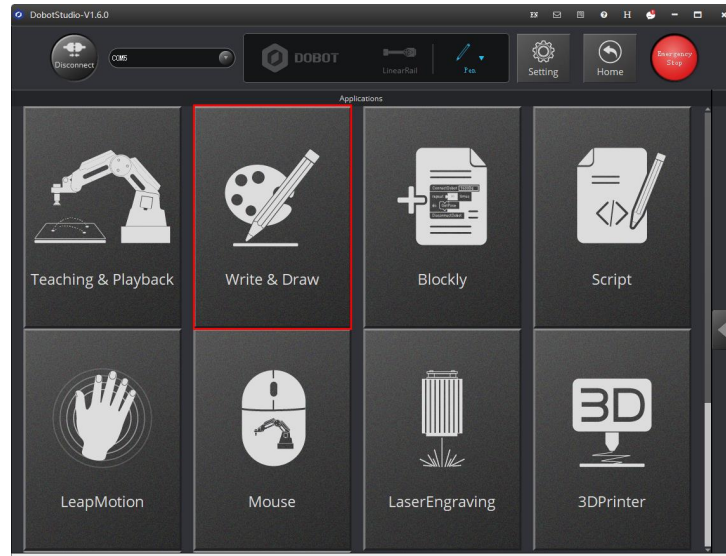

Figure 5.44 Click Write & Draw
Step 1 Click **Write & Draw** on the **DobotStudio** page, as shown in Figure 5.44.